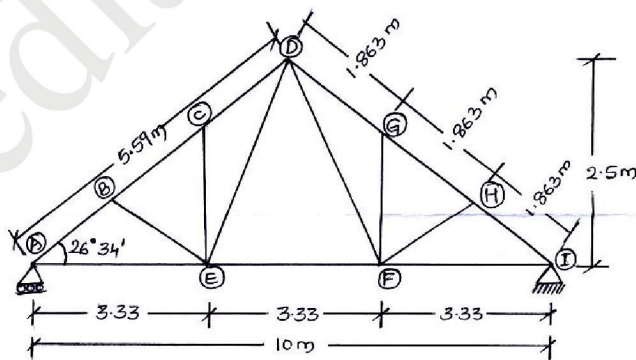

Fig. Q3
- 3 Design a roof truss shown in Fig. Q3 with forces in each member of the truss are given in table Q3. The size of RC column supporting the truss is 300mm × 300mm. Use M20 grade concrete for column. Design the truss using bolt of M16, property class 4.6 for connections and also design anchor bolts. (40 Marks)